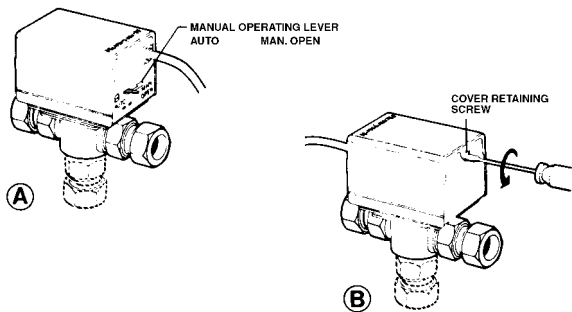

Fig. 9. Removing Cover.
3. Remove cover. See Fig. 9. Remove the two screws that secure the head to the valve body assembly. (Fig. 9B.)